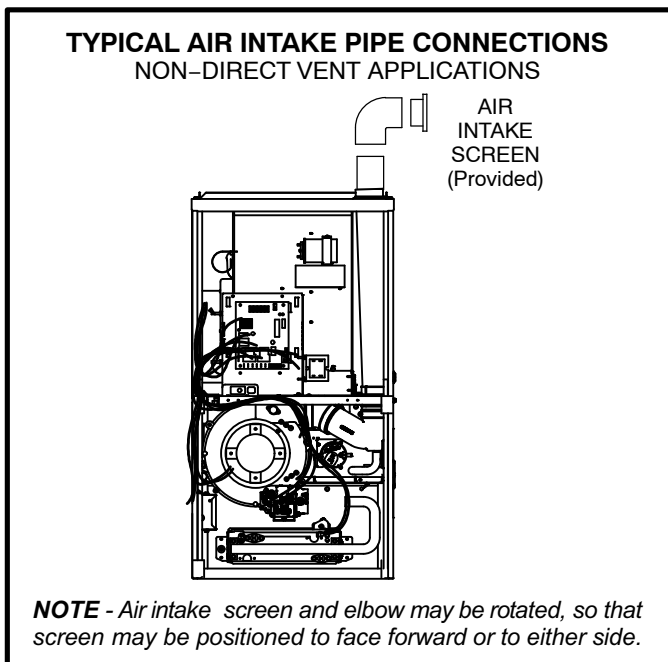

FIGURE 22
- 1 - Use field-provided materials and the factory-provided air intake screen to route the intake piping as shown in figure 22. Maintain a minimum clearance of 3" (76mm) around the air intake opening. The air intake opening (with the protective screen) should always be directed forward, or sideways.